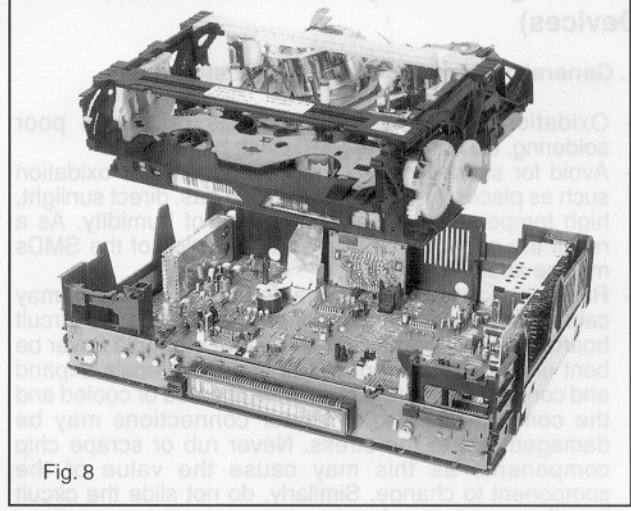

Fig. 8
- The drive can now be released from the motherboard (Fig. 8).